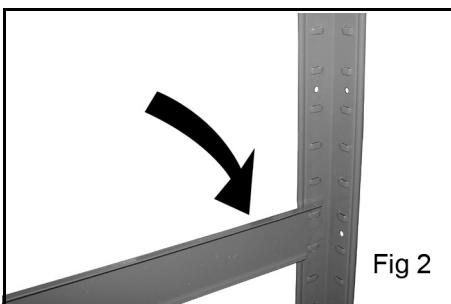

Fig 2
- Repeat this again to create the other end assembly, making sure that the corresponding beams are at the same height as in Fig 2.